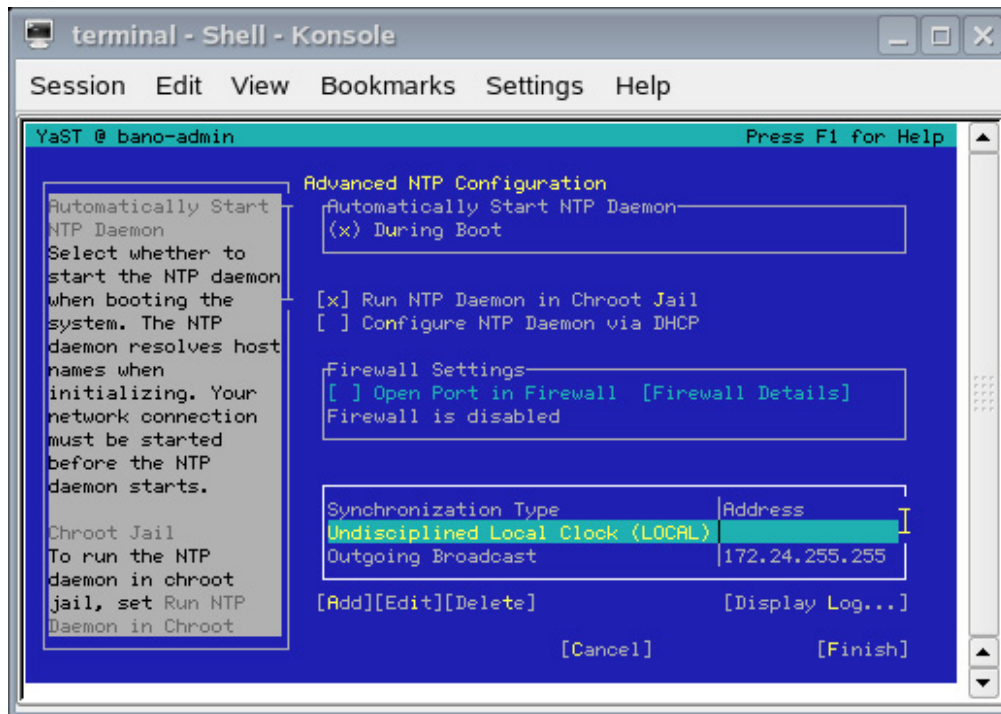

Figure 2-20 Advance NTP Configuration Screen
32. Configure NTP time service as shown in Figure 2-20 on page 48. Click **Next** to continue.